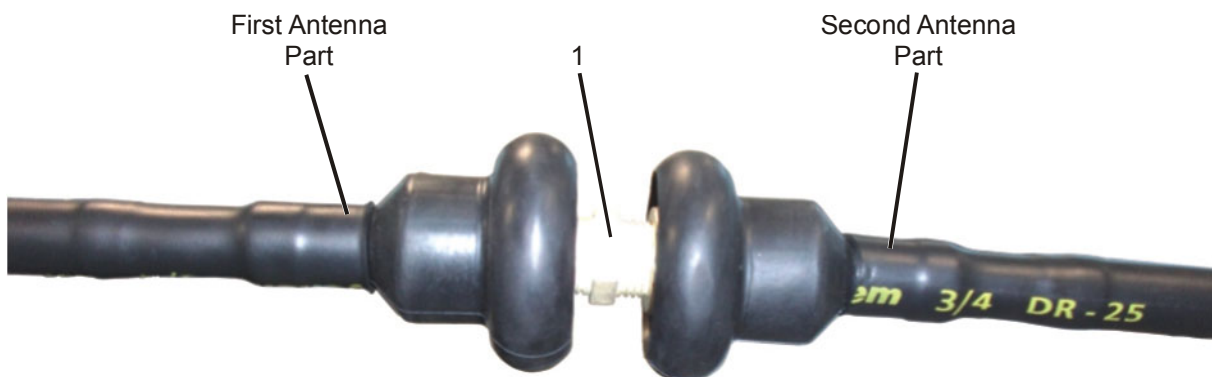

Figure 2-6. Antenna Connection 2
- d. Connect both antennas parts by connecting the adapter (1) to the second antennas connection nut (see Figure 2-6).